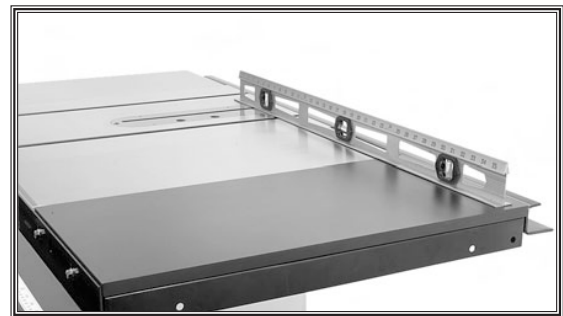

Figure 22. Adjusting Model W1819 extension table flush with wing and table.
2. Using a long straightedge, adjust the extension table so it is flat (both flush and parallel) with the main table and extension wings (**Figure 22**), then tighten the fasteners.
- Adjust the extension table so it is flat (both flush and parallel) with the main table, using a long straightedge (similar to the method shown in **Figure 22**). This can be done by loosening the mounting bolts and adjusting the feet up/down as needed.